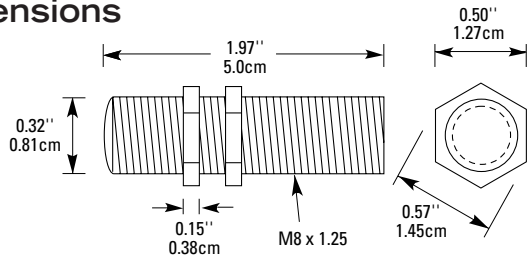

Figure 1
- The sense ranges are based on switch and actuator aligned so the sensing surfaces are face to face. (See figure 1.)
- The switch and actuator must move in one of the approved directions. See Figure 1.